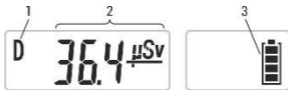

Figure 2.1 – LCD of the dosimeter (display of photon ionizing radiation DE).
2.3.3.6.2 The dosimeter's LCD shows the following information (Figure 2.1):